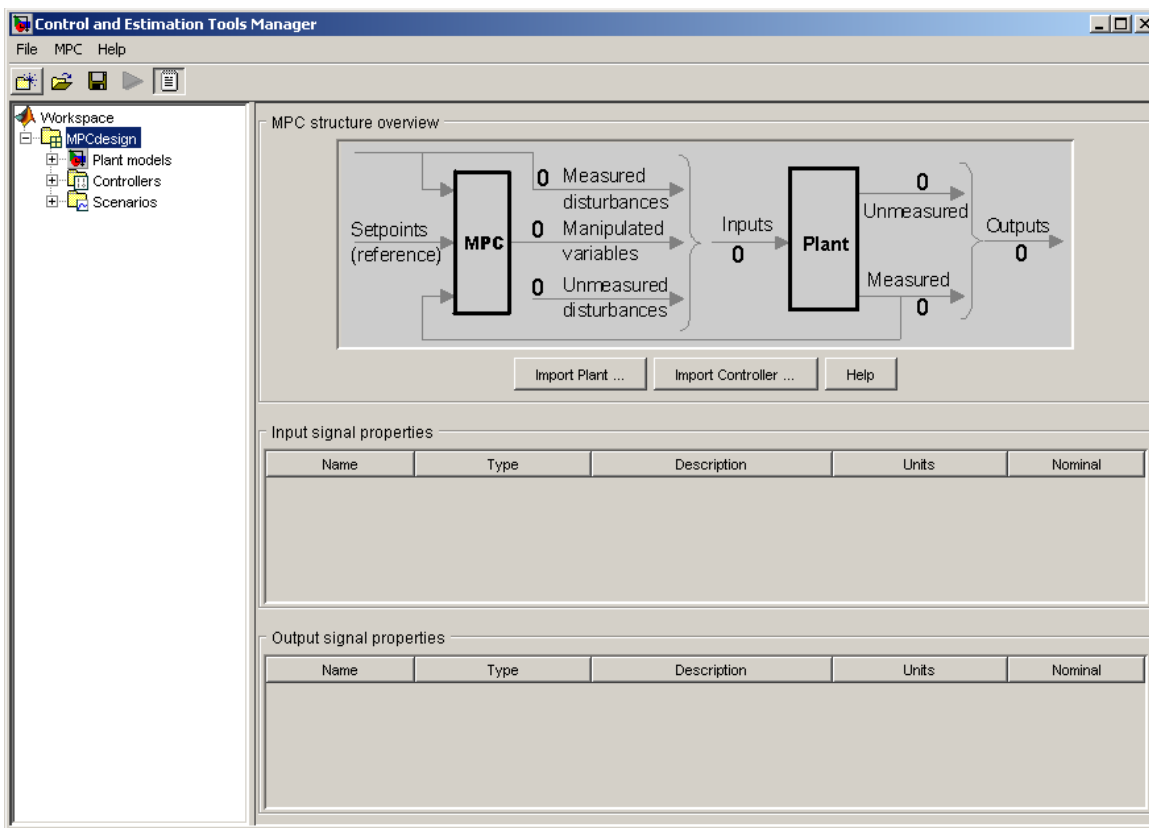
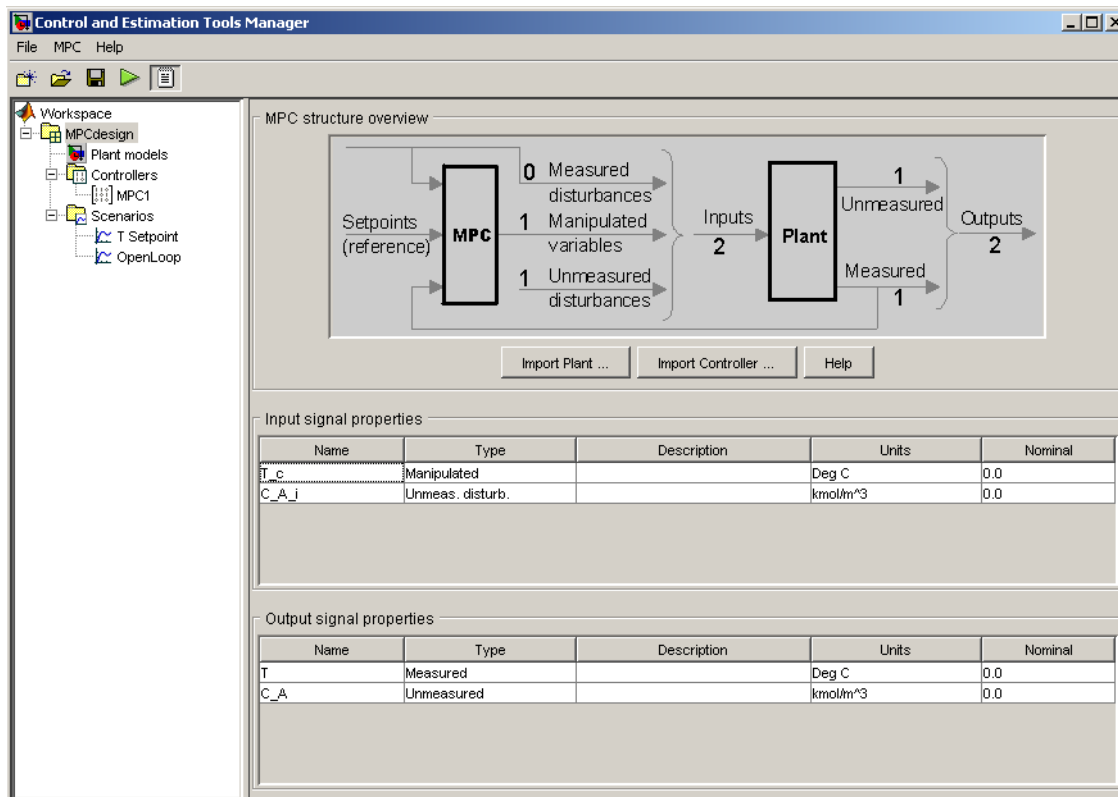

Figure 3-1: Model Predictive Control Toolbox™ Design Tool Initial View
Figure 3-3: Model Predictive Control Toolbox™ Design Tool's Signal Definition View
Click the **Import Plant** button in the design tool’s initial view (see Figure 3-1). The Plant Model Importer dialog box appears.
Click the **Import** button. This loads CSTR into the design tool. Then click the **Close** button (otherwise the dialog box remains visible in case you want to import another model). The design tool should appear as in Figure 3-3.
- The **Description** and **Unit** entries are optional. You can enter the values shown in Figure 3-3 manually. As you will see, the design tool uses them to label plots and other tables.
The *tree* in the left-hand frame of Figure 3-3 shows that the default **MPCdesign** node (see Figure 3-1) has been renamed **CSTRcontrol** by clicking the name, waiting for the usual edit box to appear, typing the new name, and pressing **Enter** to finalize the choice.
Figure 3-3 also shows three new nodes below **CSTRcontrol**. These activate once you've imported a plant model (or controller).
For example, clicking the *project* node (**CSTRcontrol** in Figure 3-3) allows you to review and edit the signal properties tables.
The C_{A_i} input's nominal value is 0.0 (see Figure 3-3), so the above models a sudden increase to 1 at the beginning of the simulation. The following is an equivalent setup using the Step type.